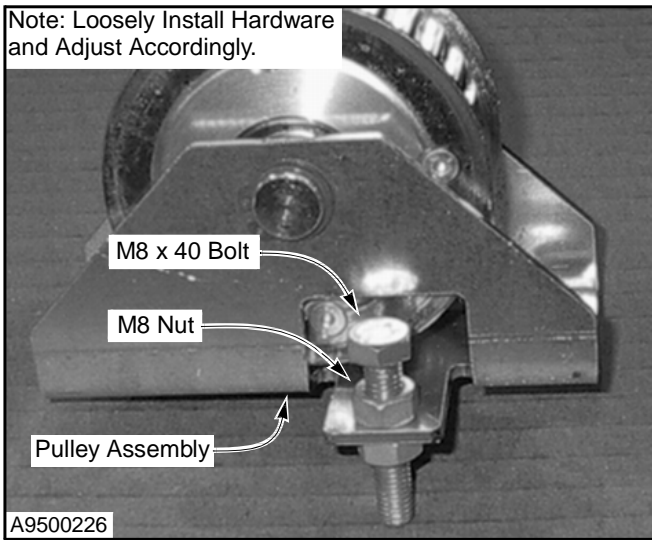

Figure 32
6. To make the belt run true, level the pulley assembly by installing one bolt and two nuts, which can be found in the small parts carton, on each tab of the guide pulley bracket. (See Figure 32.)